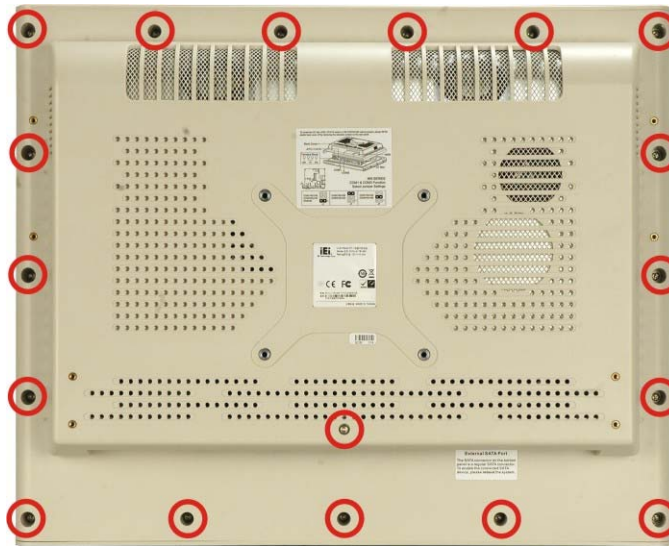

Figure 4-1: Back Cover Retention Screws
Step 1: Remove the retention screws (**Figure 4-1**) and lift the cover off the flat panel PC.